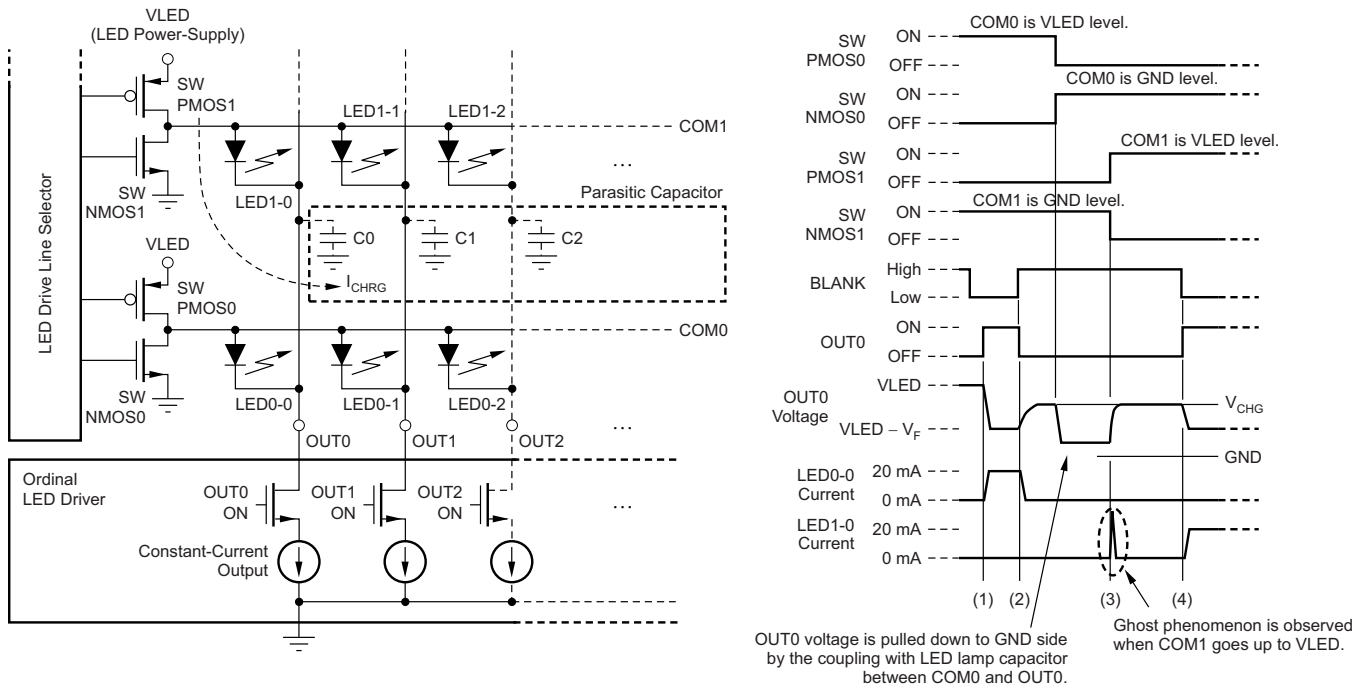

Figure 23. LED Ghost-Lighting Phenomenon Mechanism
The internal pre-charge FET prevents ghosting of multiplexed LED modules. One cause of this phenomenon is the parasitic capacitance charging current of the constant-current outputs (OUT n) and PCB wiring connected to OUT n through the LED. One of the mechanisms is shown in Figure 23.
In Figure 23, the constant-current driver turns LED0-0 on at (1) and off at (2). After LED0-0 is turned off, the OUT0 voltage is pulled up to V_{CHG} by LED0-0. This OUT0 node has some parasitic capacitance (such as the constant-current driver output capacitance and the board layout capacitance shown as C0-2). After LED0-0 turns off, SWPMOS0 is turned off, SWNMOS0 is turned on for COM0, and COM0 is pulled down to GND. Because there is a parasitic capacitance between COM0 and OUT0, the OUT0 voltage is also pulled down to GND. Afterwards, SWPMOS1 is turned on for the next common line (COM1). When SWPMOS1 turns on, the OUT0 voltage is pulled up from the ground voltage to $V_{LED} - V_F$. The charge current (I_{CHRG}) flows to the parasitic capacitor (C0) through LED1-0, causing the LED to briefly turn on and creating a ghosting effect of LED1-0.